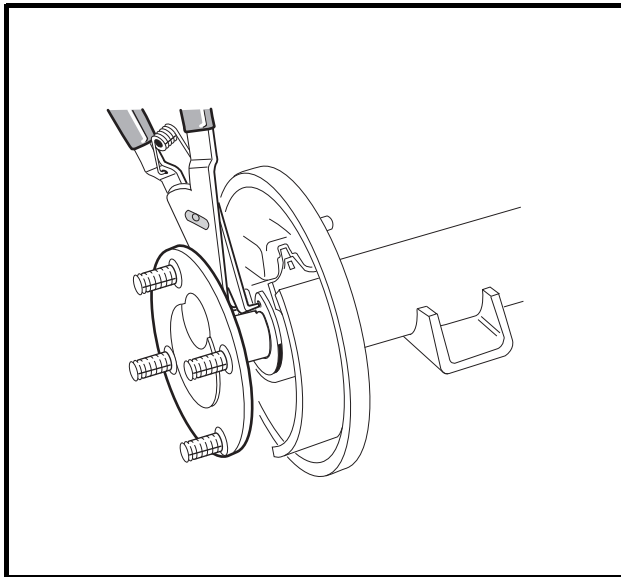
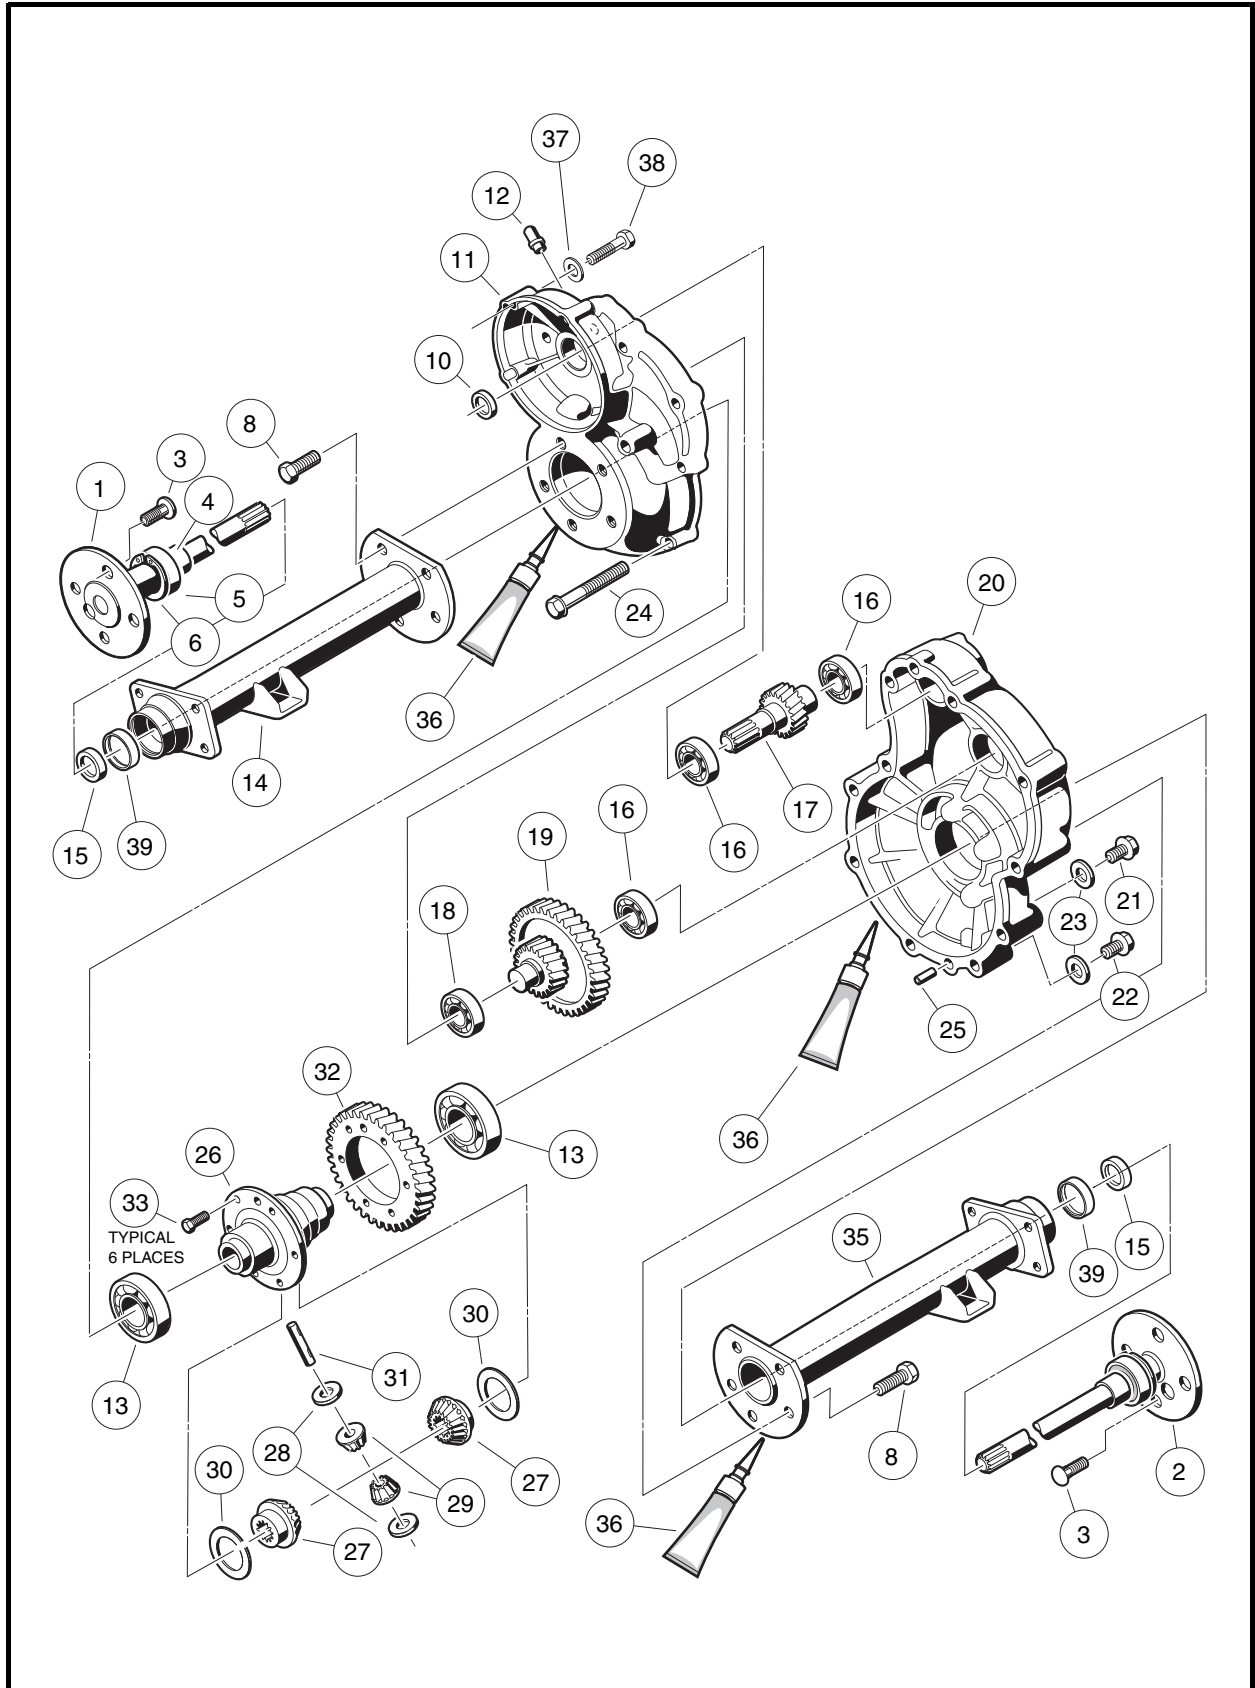
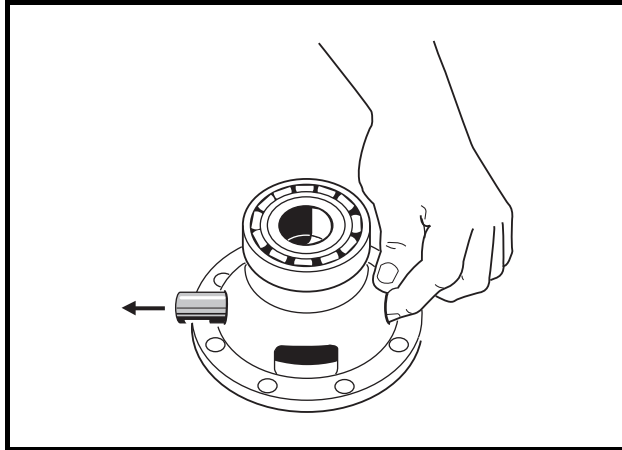

Figure 17-1 Axle Tube
Figure 17-5 Transaxle – Type G
Figure 17-15 Differential Pin
There are two plugs located on the lower half of the transaxle housing. The upper plug (21) (as viewed when the vehicle is on a level surface) is used as a lubricant level indicator (**Figure 17-5, Page 17-3**). When the vehicle is parked on a level surface, the lubricant level should be even with the bottom of the hole. The lower plug (22) is for draining the lubricant. When draining the lubricant, the upper plug should be removed so the lubricant will drain faster. Be sure the drain plug is installed before filling. **See following NOTE.**
4. Use 90° internal snap ring pliers to remove the internal retaining ring (6) from the axle tube (**Figure 17-5, Page 17-3**). **See also Figure 17-1, Page 17-2.**
8. Inspect bearing (5) (**Figure 17-5, Page 17-3**). If the bearing in a Type G transaxle is worn or damaged, the entire axle shaft assembly (1 or 2) must be replaced.
- 1.3. Clean adapter ring seat(s) in the axle tube (14 or 35) (**Figure 17-5, Page 17-3**).
- 2.1. Insert the shaft, splined end first, through the seal and into the axle tube. Be careful not to damage the seal on the inside of the axle tube hub. Advance the shaft through to the bearing on the shaft, then rotate it to align the shaft splines with the splined bore of the differential side gear (27) (**Figure 17-5, Page 17-3**). Continue advancing the shaft until the bearing on the axle is firmly seated within the axle tube hub seat.
- 2.2. Use a pair of snap ring pliers to install the retaining ring (6) inside axle tube hub so that it seats against the axle bearing assembly and into the machined slot in the inside wall of the axle tube hub (**Figure 17-5, Page 17-3**). **See following NOTE.**
**NOTE:** *If the retaining ring (6), axle bearing (5), or sleeve (4) must be replaced, the entire axle shaft assembly (1 or 2) must be replaced (**Figure 17-5, Page 17-3**).*
Do not remove the axle bearing (5) from a Type G transaxle. If bearing is worn or damaged, the entire axle assembly (1 or 2) must be replaced (**Figure 17-5, Page 17-3**).
1. To detach axle tubes (14 and 35) from the transaxle housing, remove the bolts (8) (**Figure 17-5, Page 17-3**).
2. Remove 11 bolts (24) that hold housing together.
3. Pull the halves of the housing (11 and 20) apart. If necessary, tap lightly on the spline of the input pinion (17). **See following CAUTION.**
4. Remove input pinion gear (17) by pulling gear out while rocking intermediate gear assembly (19). Lift intermediate gear assembly and differential gear case unit out simultaneously (**Figure 17-5, Page 17-3**). **See following CAUTION.**
5. Use a bearing puller or arbor press to remove bearings (16) from the input pinion gear. If the oil seal (10) is damaged, replace it (**Figure 17-5, Page 17-3**). **See also Figure 17-13, Page 17-8. See following CAUTION.**
6. To disassemble the intermediate gear assembly, press off together the bearing (16) and the gear (19) (**Figure 17-5, Page 17-3**). **See also Figure 17-13, Page 17-8.**
7. Press the bearing (18) off the intermediate gear assembly (**Figure 17-5, Page 17-3**).
- 8.1. Remove the hex bolts (33) and the ring gear (32) from the differential case (**Figure 17-5, Page 17-3**).
- 8.4. Remove the differential pin (31) by pushing pin through differential gear case from one side (**Figure 17-5, Page 17-3**). See also **Figure 17-15, Page 17-9**.
8.7. Inspect the bearings (13) of the differential case (26) and replace them if they are damaged (Figure 17-5, Page 17-3). To remove them, press them off. **See following CAUTION.**
1. If bearings (13) were removed during disassembly, install new bearings using an arbor press (Figure 17-5, Page 17-3).
- 2.1. Install the pin (31) (Figure 17-5, Page 17-3). Apply a small amount of oil to all thrust plates and to both ends of the pin.